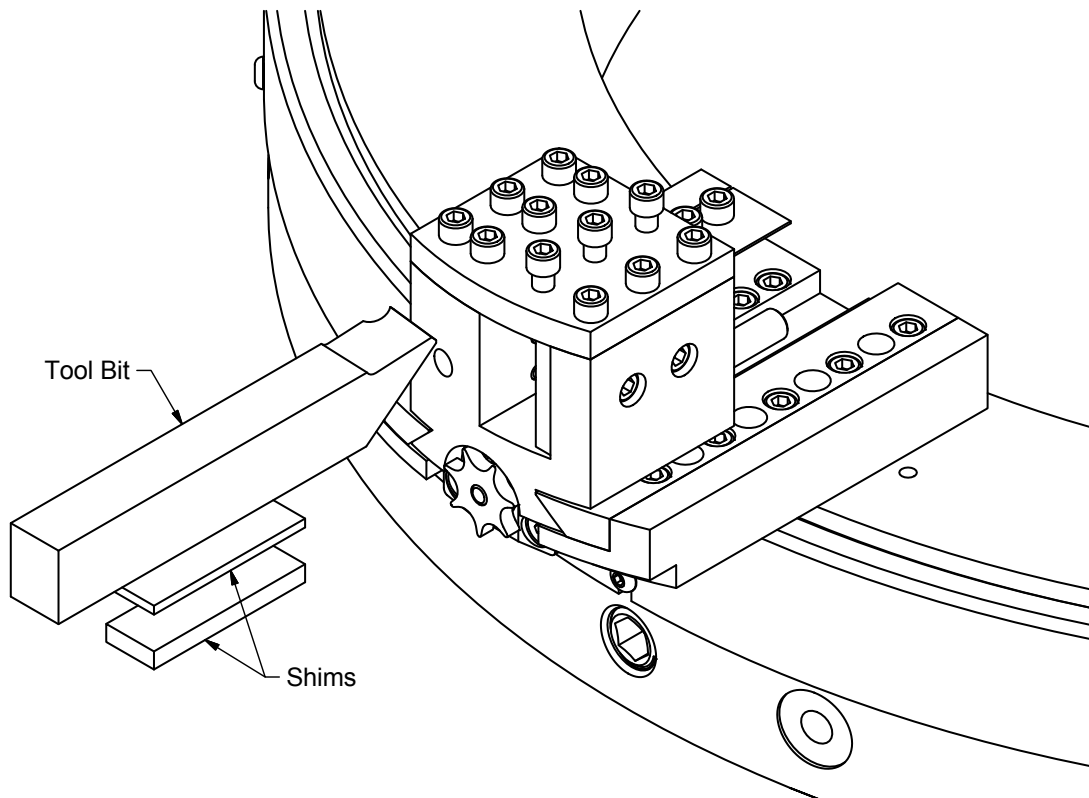

Figure 2-10 – Install Tool Bits and Shims
11. Insert a tool bit into each tool block. Use shims to position the tool bit as necessary. Each tool block must use the same thickness of shims. Limit the distance the tool bit extends out of the tool block for greatest rigidity. A rigid setup will help achieve the best performance, accuracy and quality of cuts. See Figure 2-10.